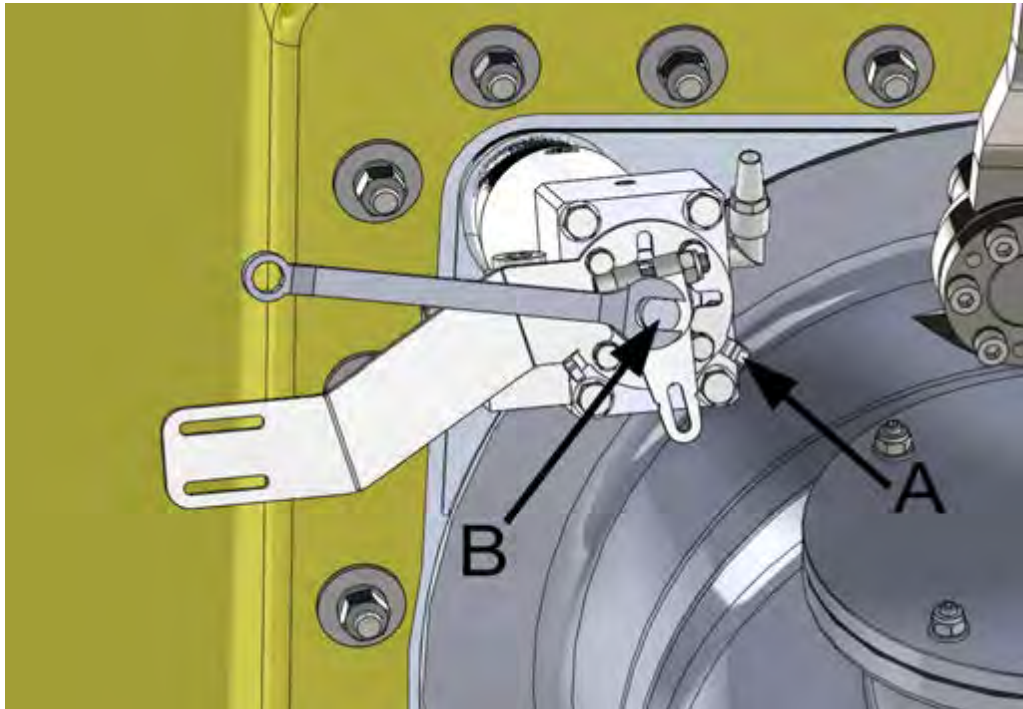

Figure 45. Operating shaft and limiter
3. Place the lever against the limiter on the shaft (figure 45, point A).
5. Using a wrench, turn the operating shaft (figure 45, point B) 13 mm (0.4") clockwise so that the reversing deflector is down, blocking the jet flow.